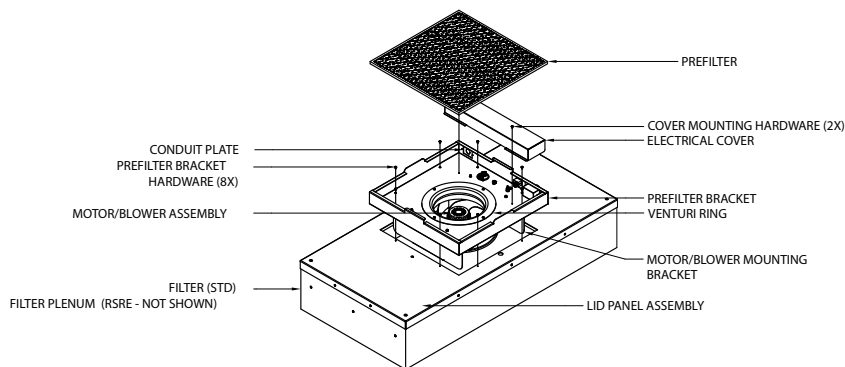

Figure 9.1: Standard Motor Replacement
Step 4. Loosen the electrical cover screws (two), and slide/lift off cover. (See Figure 9.1.)
Step 7. Remove the eight screws to free the motor/blower assembly from the lid assembly. If using power drivers, set the unit to a low torque setting to avoid stripping the sheet metal screws (See Figure 9.1.)